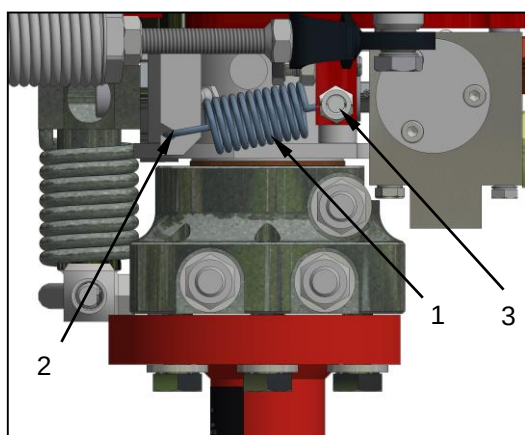

Figure 15 Tension spring for strong weeds
If the sensor rod is already pushed backwards by strong weeds, the sensitivity of the sensor unit can be reduced by inserting a spring CW009.020600 (Figure 15, item 1). Place the spring between the hook (item 2) and the adjusting screw (item 3).